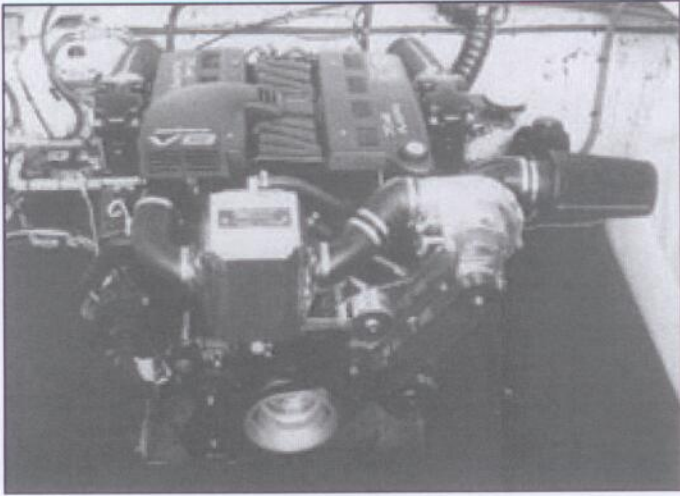

FIGURE E1
1. Review figure E1 before starting. Place supplied 4" inlet elbow over ProCharger inlet. Position the elbow so that it points upward and/or outward to avoid the exhaust manifold and, if applicable, deck above when the filter is installed. If necessary, this elbow can be trimmed to obtain the proper clearance. Temporarily secure with a clamp. On the inlet elbow, position and mark the location of the breather fittings (the plastic 1/2" straight and 1/2" 90 deg fittings). The fittings should be positioned so that the straight fitting routes to the port side breather and the 90 degree fitting routes to the starboard side breather. Remove the elbow and drill holes for fittings using a 7/16" drill bit. Insert the fittings and reinstall the inlet elbow.